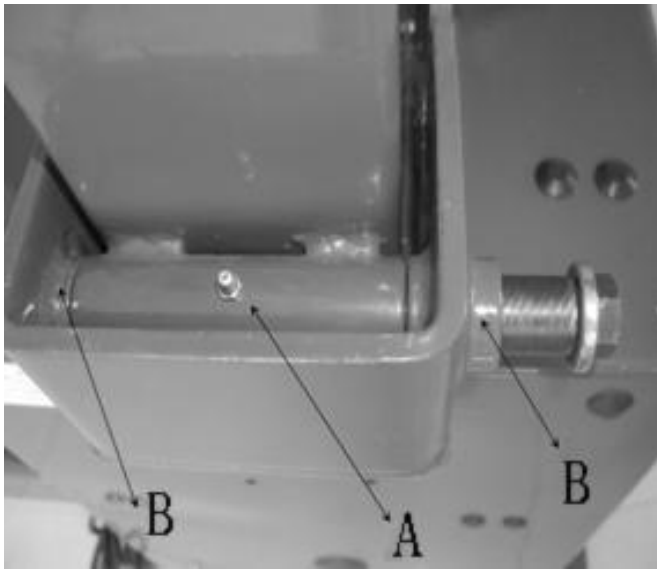
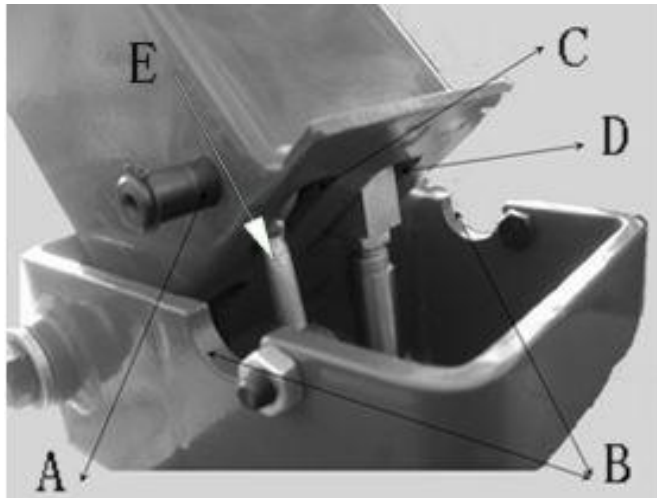

Fig4-3
Fig 4-4
4.2.7 Lift up the column and insert the PU hose (Fig4-3 A) at the bottom into the open at the top of the body of the machine (Fig4-3 B) . Adjust the position of the column to align the rotation shaft bushing (Fig4-4 A) with the hole of the rotation shaft base (Fig4-4 B) . Take the nut and washer at one end of the rotation shaft assembly (Fig4-1 A) , making the termination of the shaft about 1mm lower than the base frame. Retighten the washer and nut. The tighten torque is 70N·m.